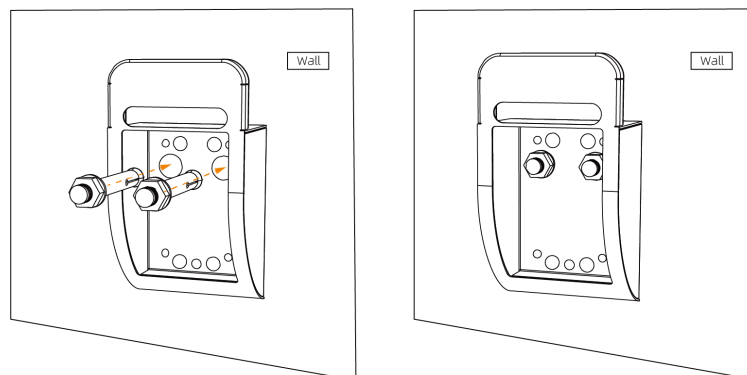

**FIG 24: SCHEMATIC DIAGRAM OF EXPANSION SCREW INSERTION**
**Step 13:** Select a drill bit with the diameter of 10mm, mark the position in the previous step with a hand drill to drill a hole with a depth of about 110mm, and then insert an M6\*100 expansion screw (note: the expansion screw should not be completely inserted into the hole) into the lower hole, as shown in FIG. 24.